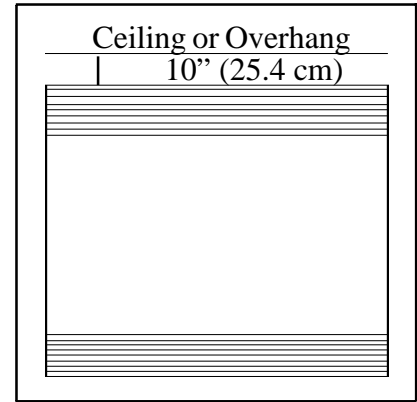

FIGURE 3
2. The minimum clearance from the top of the heater to the ceiling or any projecting overhang is 10". (See Figure 3).